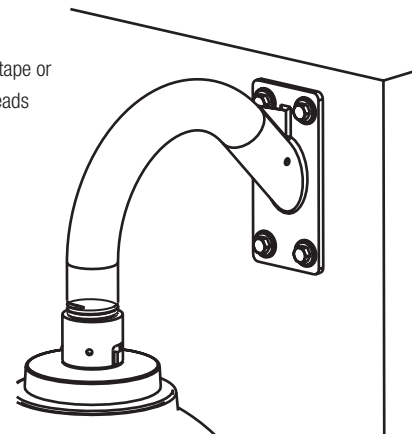

Figure 5
6. Screw the housing coupling onto the WM20G 1/2" pipe thread (Figure 5). Make sure all attachments are secure.